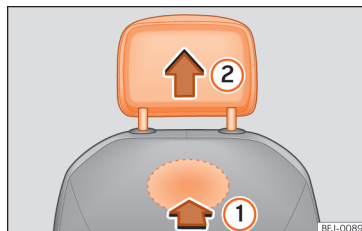

Fig. 69 Front head restraint: removal.
- To unlock it, look for the rabbet on the bottom of the backrest and press in the direction of the arrow »» Fig. 69 ①.
- Remove the head restraint in the direction of the arrow ②.